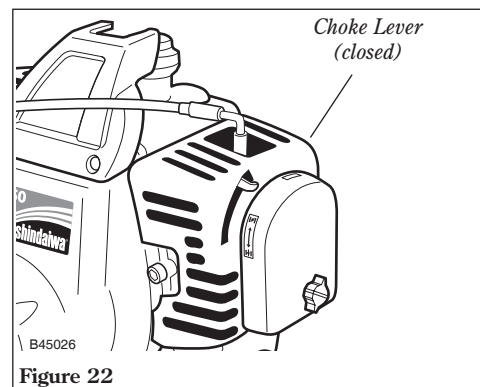

Figure 22
4. **(Cold Engine Only)** Choke the engine by moving the choke lever *up* towards the spark plug (choke is closed). See Figure 22.